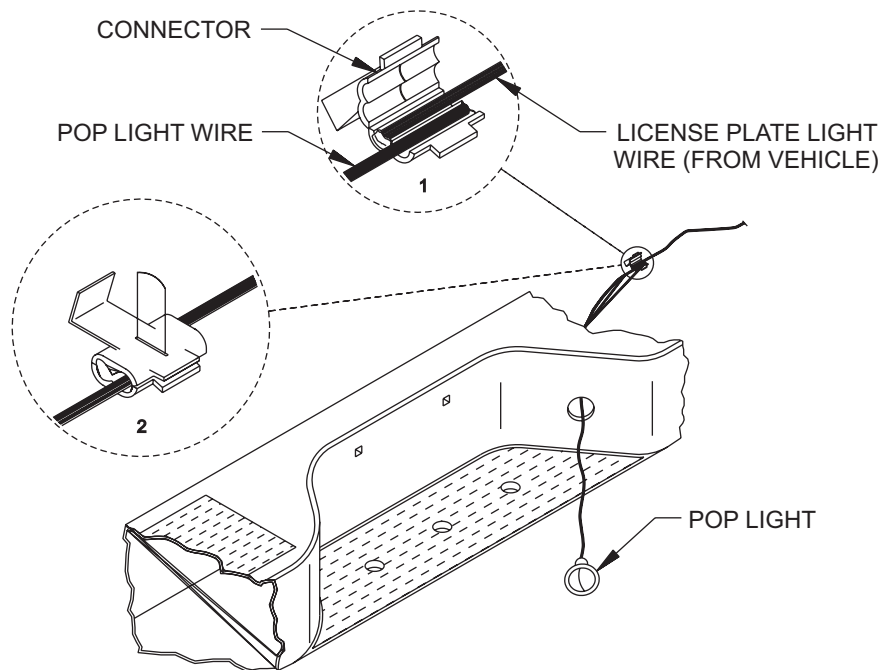

FIGURE 4
STEP 2: INSTALL POP LIGHTS INTO BUMPER (SEE FIGURE 4). USING SUPPLIED. CONNECTORS, SPLICE POP LIGHT WIRES INTO TRUCK ILLUMINATION WIRE AS SHOWN IN (SEE FIGURE 4). VERIFY THAT LICENSE PLATE LIGHTS ARE WORKING PROPERLY.